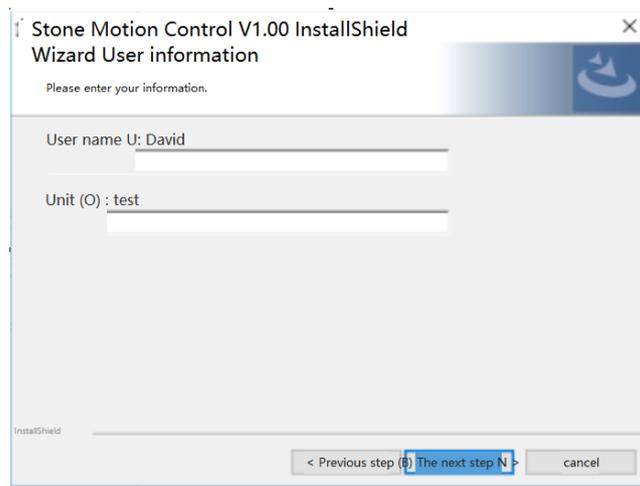

Figure 5-3 User information
4. Select "**I Agree**", click "**Next**" and enter the user information, as shown in Figure 5-3.